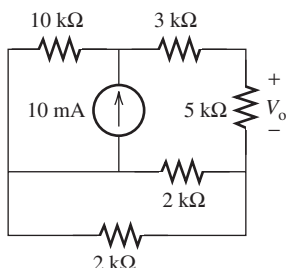

FIGURE P3.28 Circuit for Problem 3.28.
- 3.28** (H)* Find V_o in Figure P3.28.